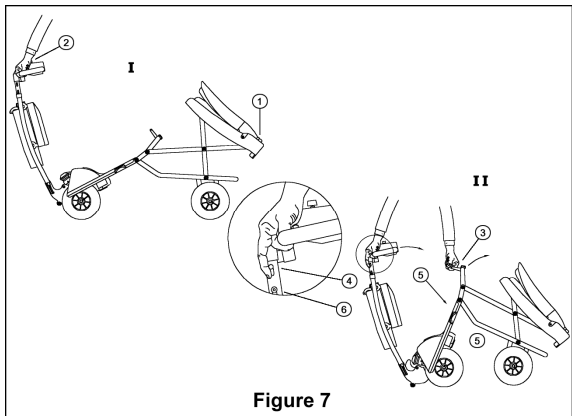

Figure 7
Step 1: Fold backrest of seat down and ensure it is locked (Fig. 7/1)
Step 2: Hold handgrip of front column (Fig. 7/2) in the “Operating” or “Entry/Exit” position and push forward away from seat to fold platform upwards.
Step 3: Grasp platform handle (Fig. 7/3) and pull column lock triggers (Fig. 7/4) to fold column towards the platform. Fold together until folded frame lock pin (Fig. 7/5) and column latch (Fig. 7/6) click into place and hold *EasyTravel* in folded position.